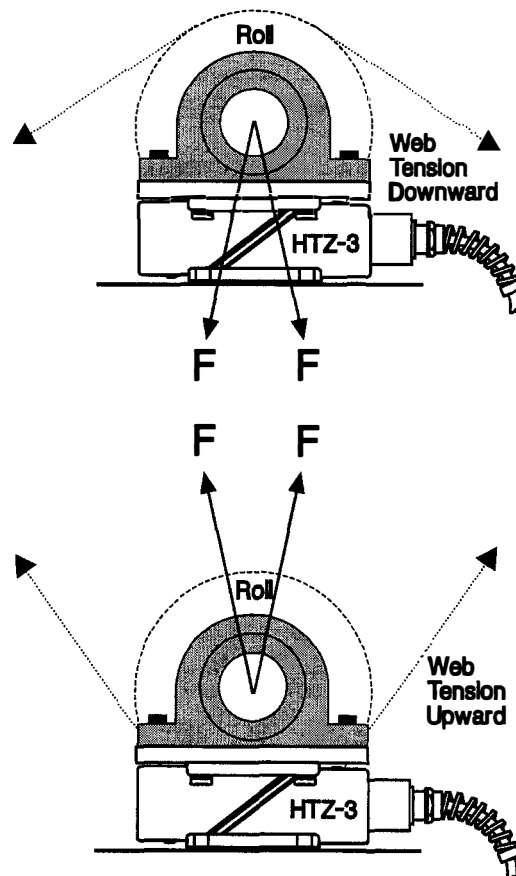

Figure 2-2. HTZ-3 Force Direction
- (1) **Positioning:** HTZ-3 Web Tension Measurement Modules should be oriented so that resultant tension forces are applied toward the base or mounting pad of the module as shown in Figure 2-2.